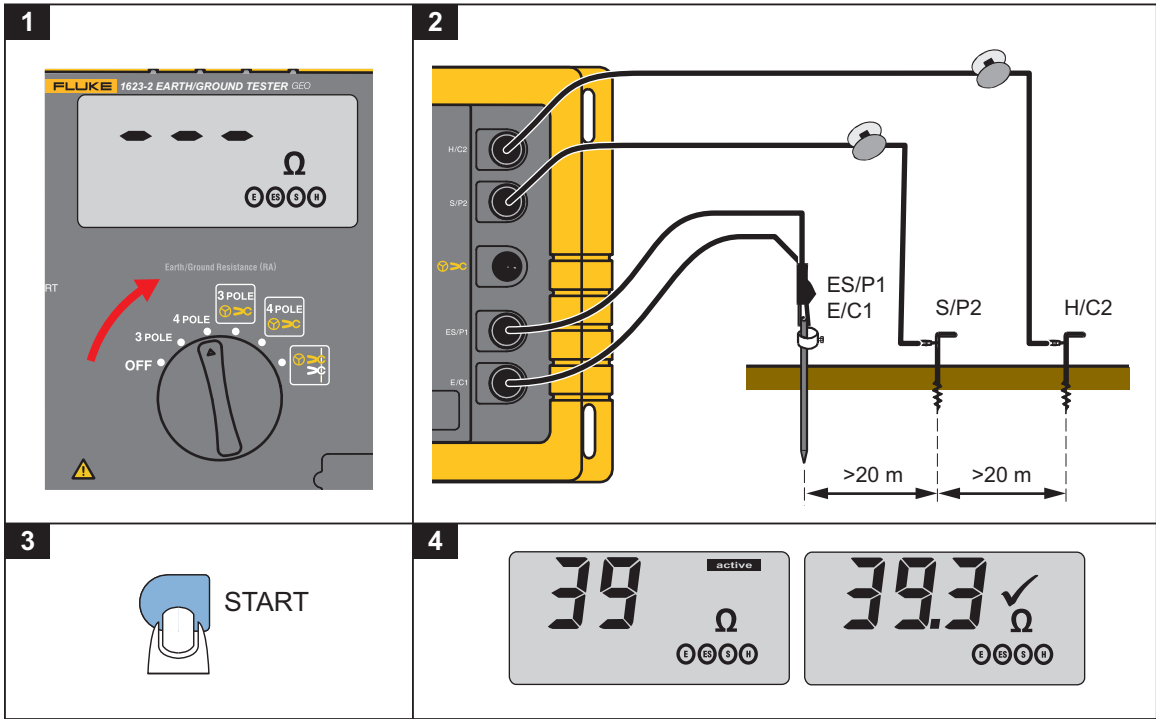

Figure 5. R_A 4-Pole Measurements
1. Select **4 POLE** function. See Figure 5.